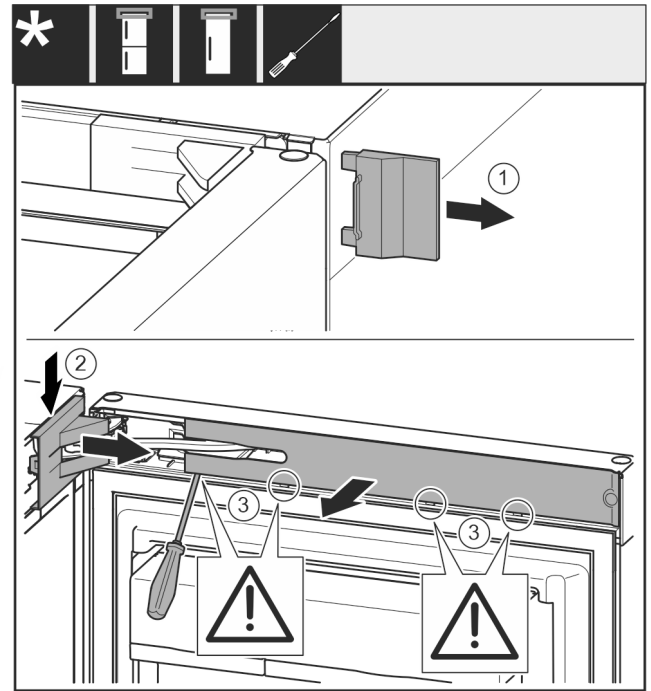

Fig. 10
- ▶ Remove cover Fig. 10 (1).
- ▶ Disengage and loosen the swap bearing block cover Fig. 10 (2).
- ▶ Remove the swap bearing block cover Fig. 10 (3).
- ▶ Use a slotted screwdriver to unlatch the trim Fig. 10 (3) and swing it to the side.